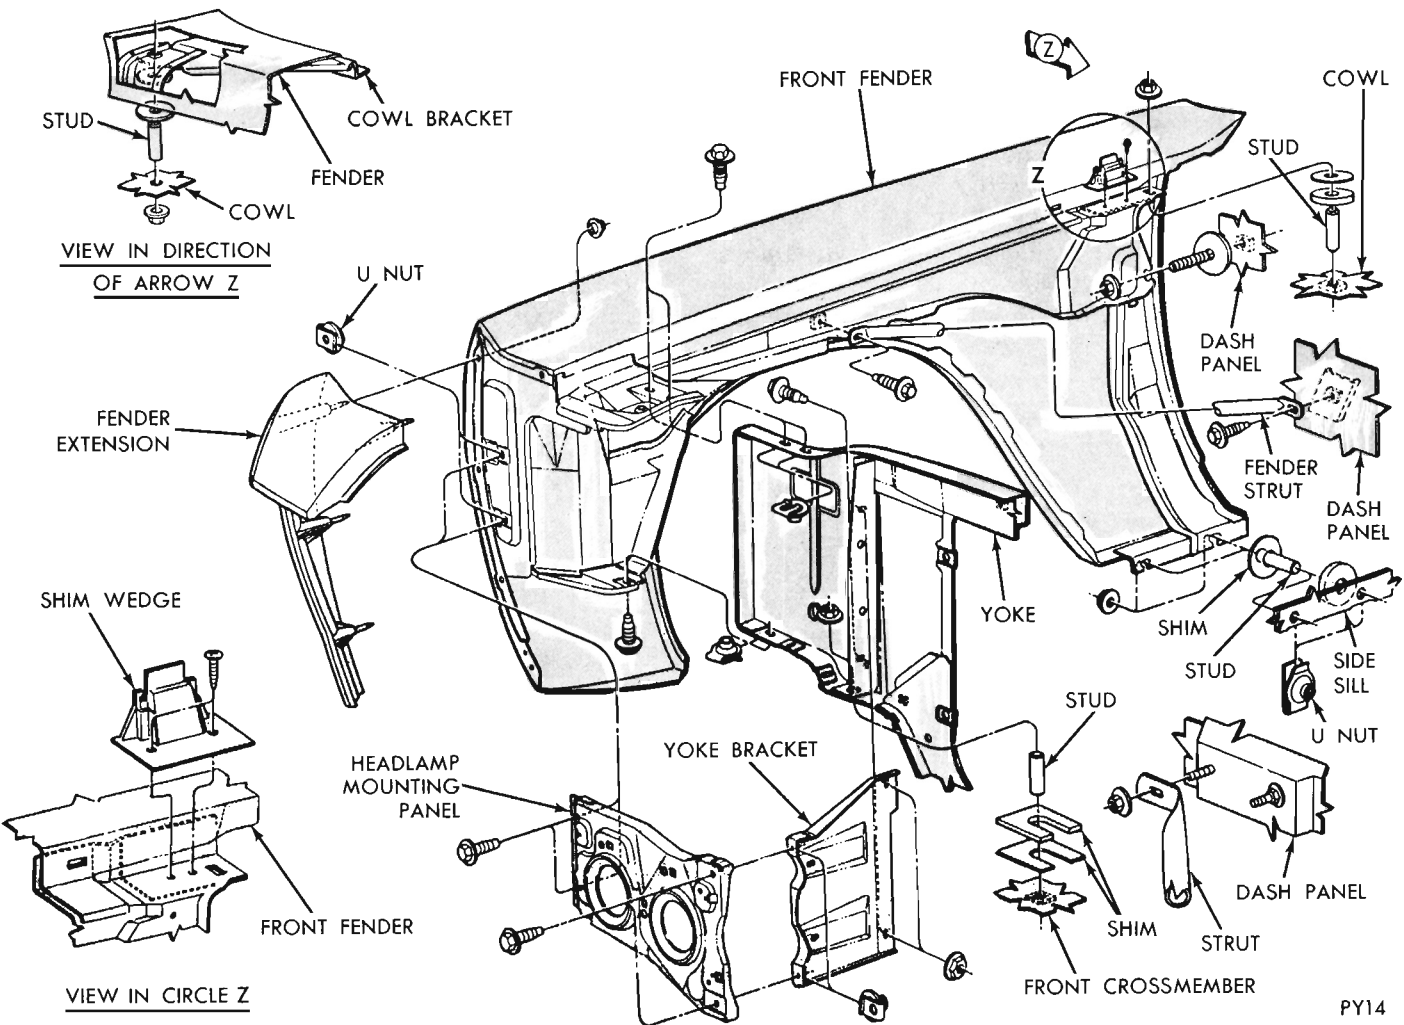

Fig. 6 - Fender Attachment
- (1) Disconnect battery ground strap.
- (2) Tape leading edge of front door and cowl to fender area to avoid damaging paint.
- (3) Remove front bumper assembly.
- (4) Disconnect head lamp wires and remove grille extension to fender nuts.
- (5) Remove fender to cowl, side sill, wheelhouse and radiator yoke nuts and screws (Fig. 6).
- (6) Remove fender assembly and if necessary, mouldings, ornamentation and headlamp assemblies.